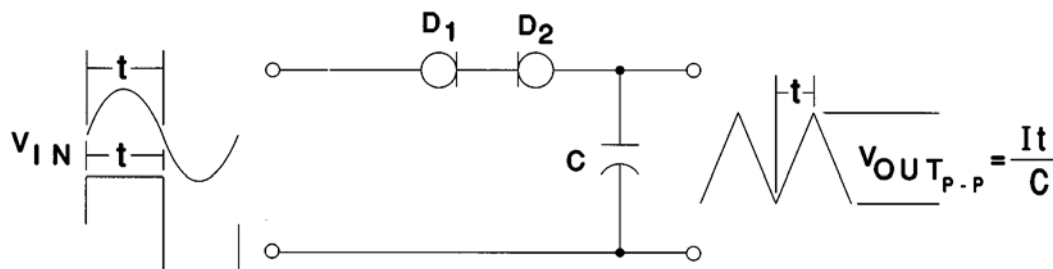

Figure 15. Triangle-Wave Generator
**Triangle-Wave-Generator**—A simple sine or square to triangle-wave generator can be built using two CLDs back-to-back, as shown in (Figure 15).